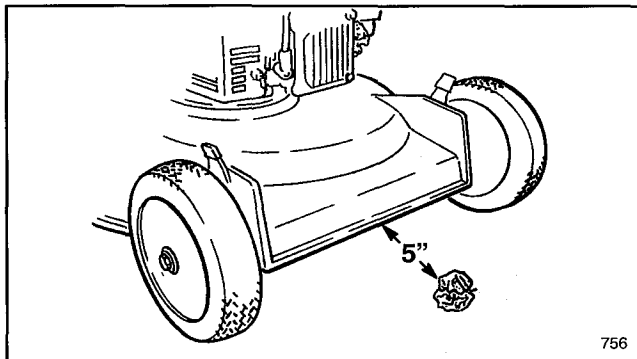

Figure 14
4. Take a half sheet of newspaper and crumple it into a ball small enough to go under the deck (approx. three inches in diameter) (Fig. 14).
5. Place ball of newspaper five inches in front of mower (Fig. 14).